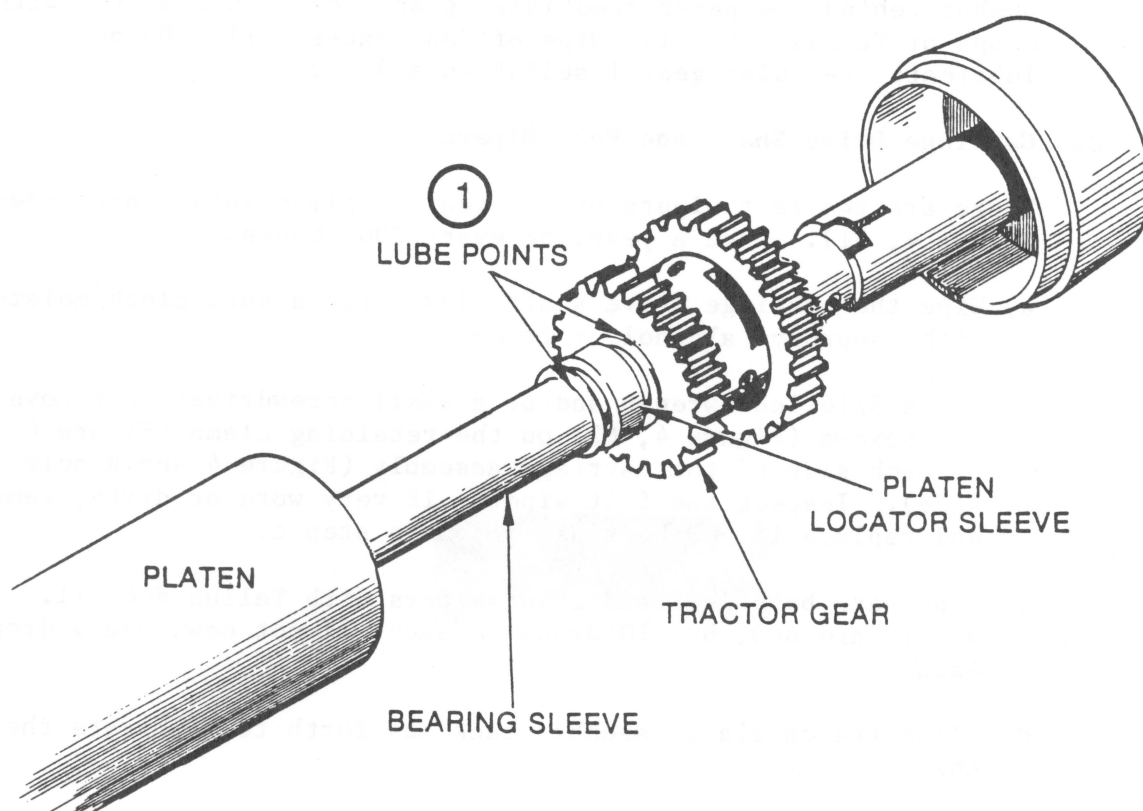

FIGURE 5
2. Place two drops of Tellus #46 oil at one end of the platen sleeve (see Figure 5, #1), and hold the platen vertical so that the oil flows down the shaft.